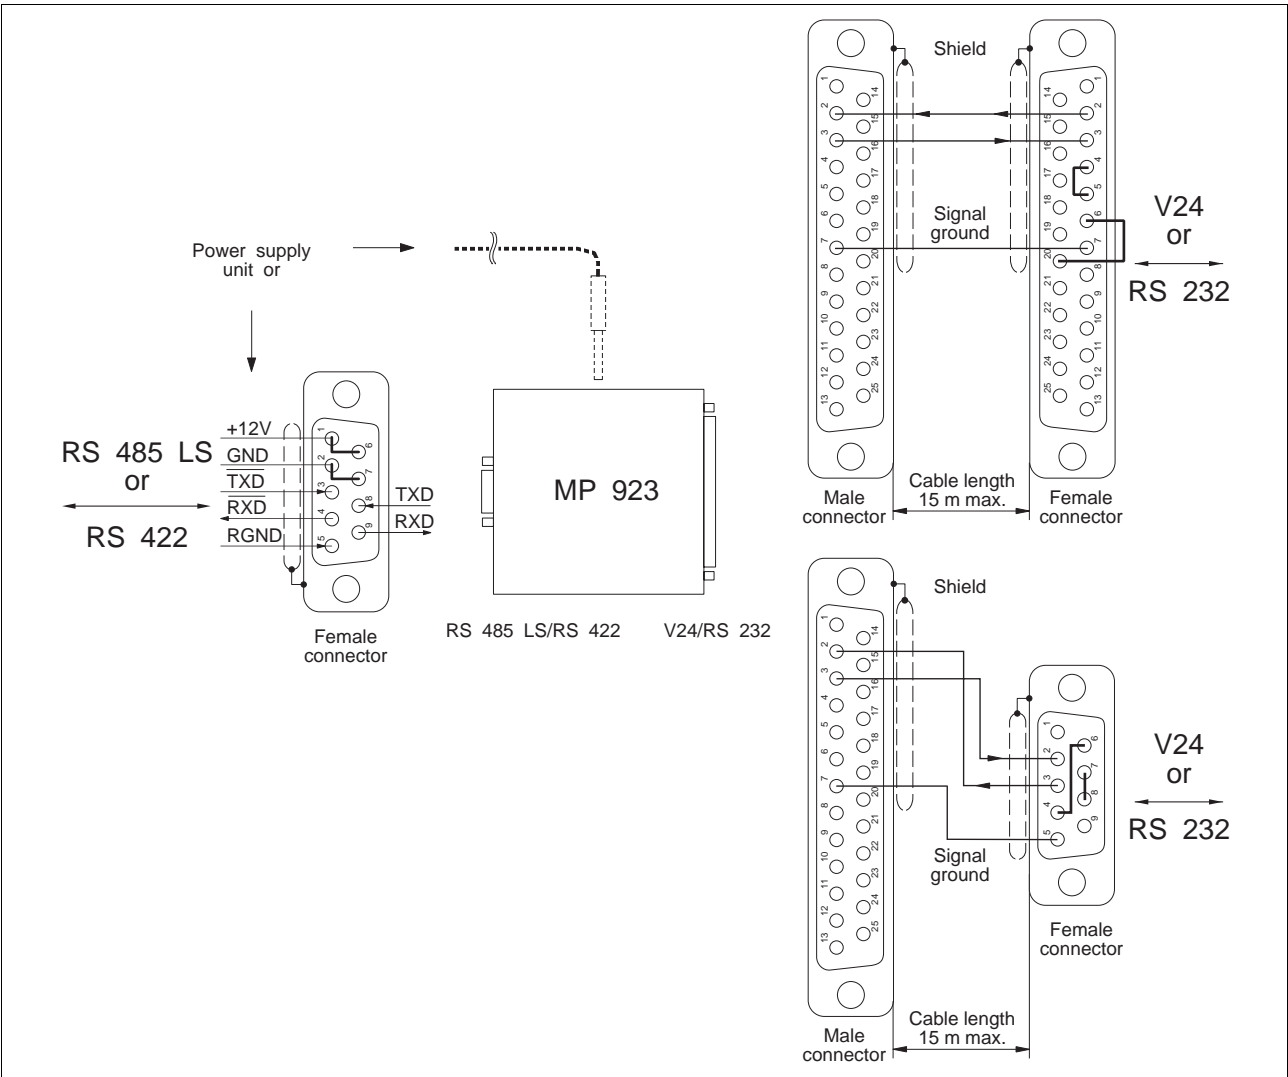

Fig. 6-5 MP 923 interface converter wiring
1. Wire the MP 923 interface converter in accordance with fig. 6-5.